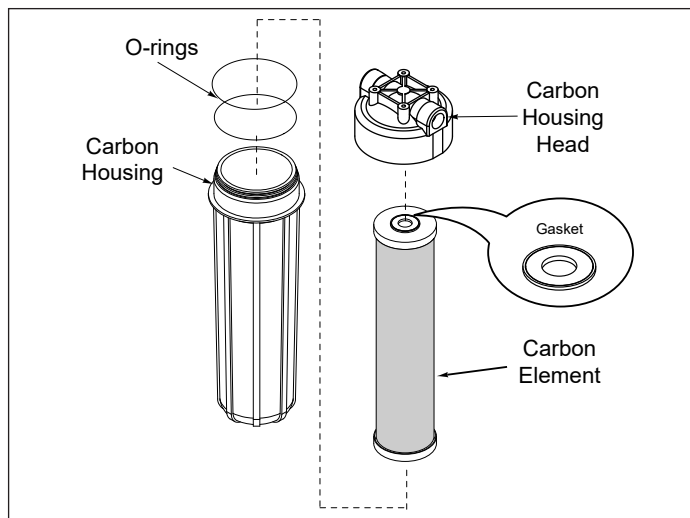

Figure 1. Replacing the Carbon Element
4. Lubricate the O-rings with an approved food grade lubricant and install onto the Filter Housing (Figure 1).
6. Screw the Filter Housing into the Head until it stops (Figure 1). Use a Filter Wrench, if necessary.